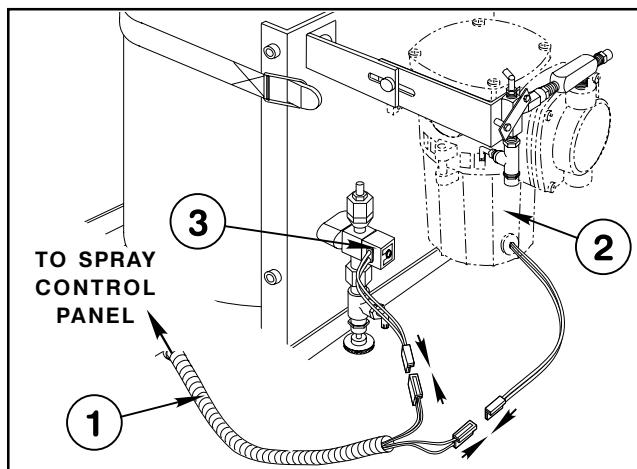

Fig. 14
7. Locate Wiring Harness and make the connections to the Compressor and Solenoid located at the Foam Tank/Compressor Assembly. **NOTE: BOTH PLUG CONNECTIONS ARE THE SAME.** (Fig. 14)